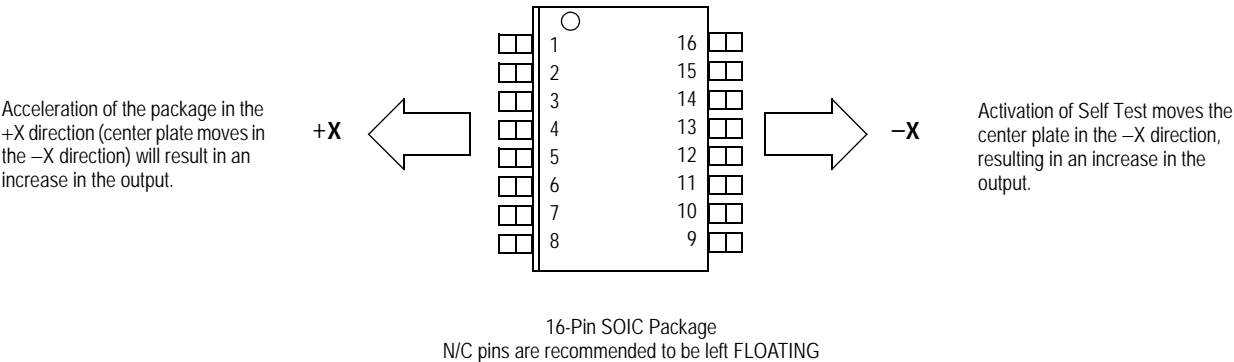

**Figure 6. Recommended PCB Layout for Interfacing Accelerometer to Microcontroller**
3. Place a ground plane beneath the accelerometer to reduce noise, the ground plane should be attached to all of the open ended terminals shown in Figure 6.